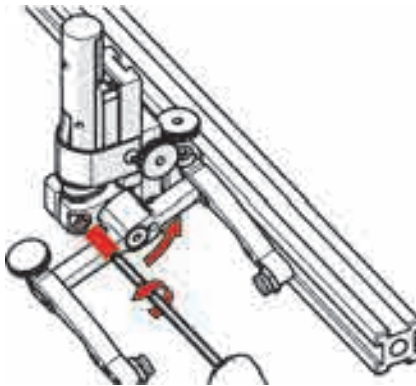

Figure 4-60 Loosen 3 mm screw
2. Using the supplied 3 mm hex driver, loosen the transverse adjustment screw, and rotate the yoke about the vertical shaft achieving the desired angle (see Figure 4-60 on page 140).